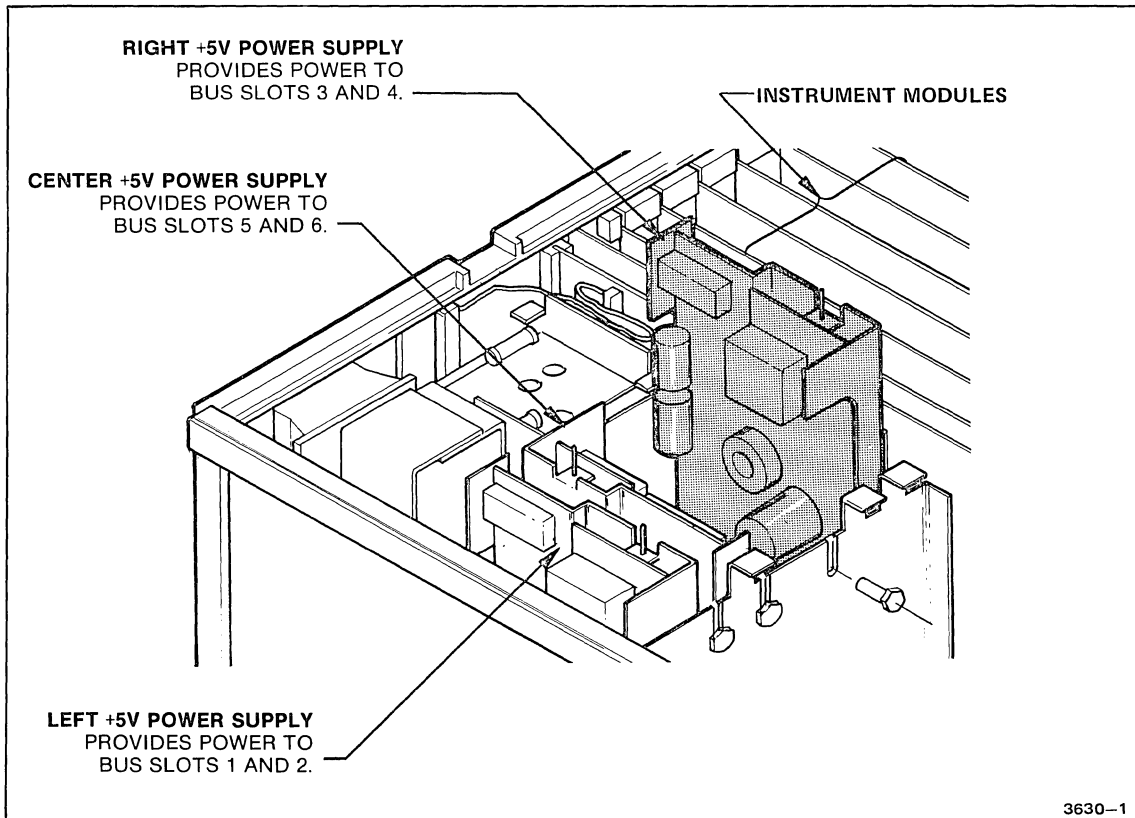

Figure 5-5. Bus slots powered by each +5 V Power Supply Module.
2. Set the Main Extender Board to accept a standard instrument module. Install the extender board in one of the slots powered by the +5 V supply being tested (see Figure 5-5).
3. Install one of the DAS instrument modules on top of the extender board. Install the other instrument module in the other slot powered by the +5 V supply (see Figure 5-5).